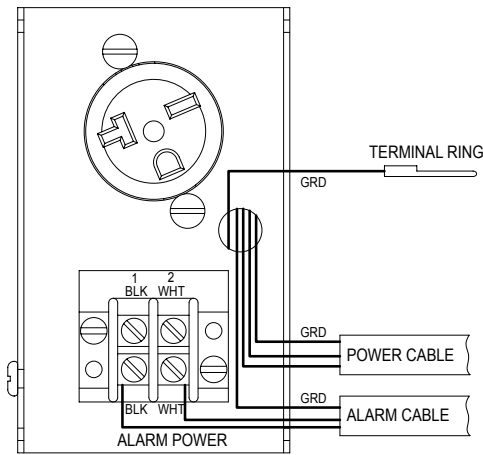

Figure 4
1. Connect power cable conductors to the terminal block and the grounding wire to the ground terminal, as shown in Fig. 4 and 5. Also connect the alarm cable ground wire to the grounding terminal.
10. Install alarm inside on a separate circuit as shown in Fig. 4 or 5.